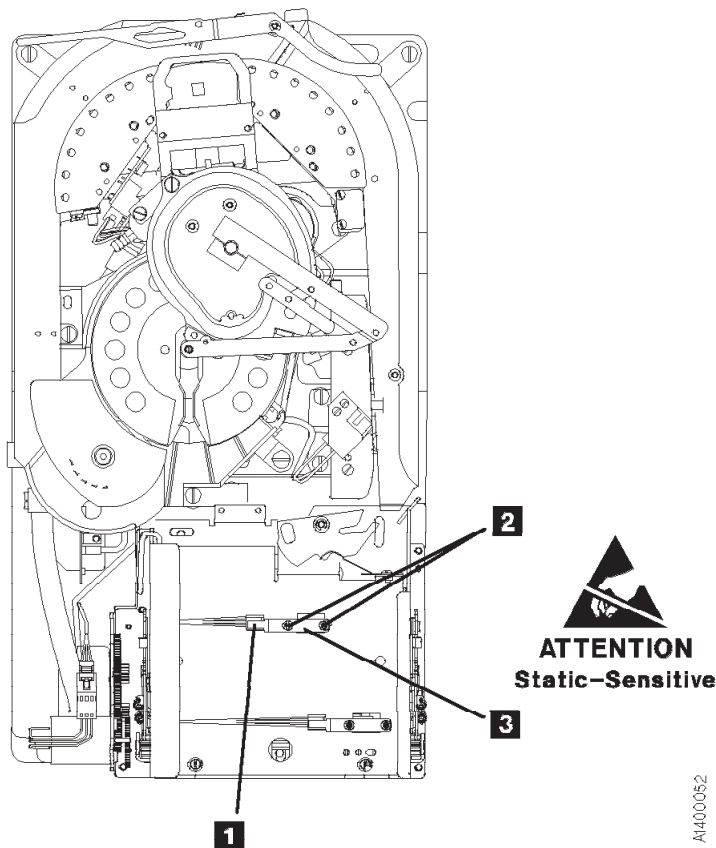

Figure 10-68. Tray-Up Sensor
3. See Figure 10-68. Remove two screws **2** holding tray-up sensor **3**.